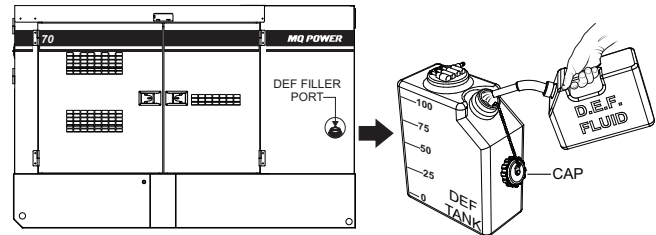

Figure 30. Filling The DEF Tank
2. Remove the cap from the DEF tank filler port (Figure 30).